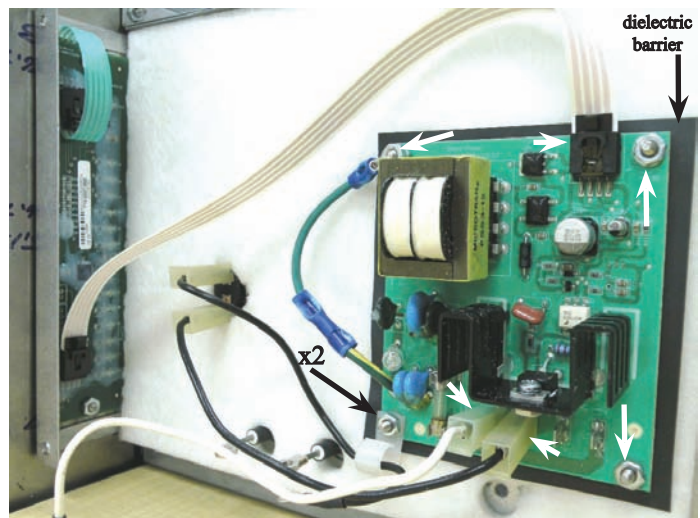

Fig 9
3. To remove the **Power Board**, unhook all wires and ribbon. (**Fig 9**).
4. Remove five (5) 5/16 nuts and carefully remove board (**Fig 9**).
5. After the board is removed, you will be able to remove the **Dielectric barrier** (**Fig 9**) between the power board and insulation. At this point, you can replace the **insulation** if necessary.